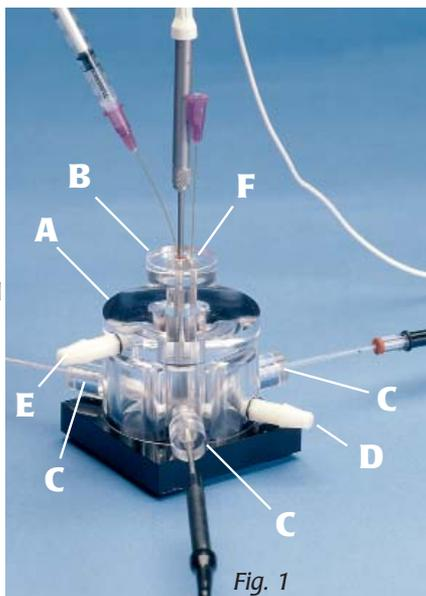

Fig. 1
The description below refers to Figure 1.
The NOCHM consists of a Chamber (A) and a Top Fitting Cap (B), through which a 2-mm electrode can be inserted (see Fig. 1). Three optional use Side Ports (C) are also provided through which three additional electrodes can be inserted for the simultaneous measurement of up to three analytes. The inner volume of the chamber (and hence sample volume) can be continuously adjusted in volume from 1.0mL to 3.0mL and is suitable for most cell suspension experiments and electrode calibrations.
1. To use the Multi-port Measurement Chamber at temperatures above or below room temperature but within the range of 4-40° C, connect an appropriate heating/cooling circulator bath to the inlet/outlet connectors (E and D in Fig. 1) using 1/4-in. tubing.